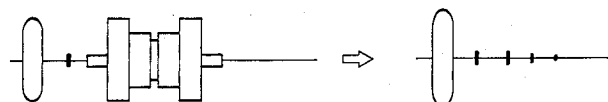

Fig. 19-1
3. Adjust RV3 and RV4 of BB board so that 3.58MHz component is minimum as shown in Fig.19-1.